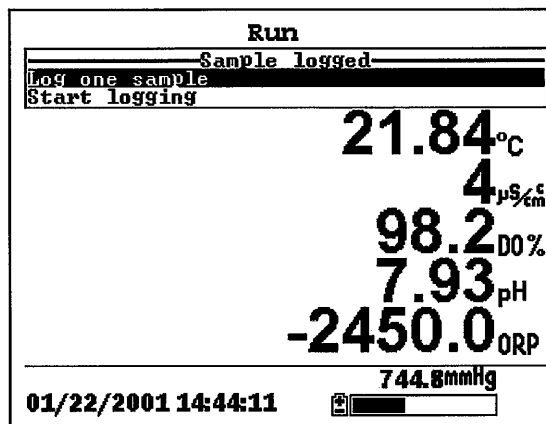

Figure 9.11 Sample Logged Screen
7. If a single point is being logged, the header on the run screen changes momentarily from **Menu** to **Sample logged** to confirm that the point was successfully logged. See Figure 9.11 Sample Logged Screen. Skip to Step 9.